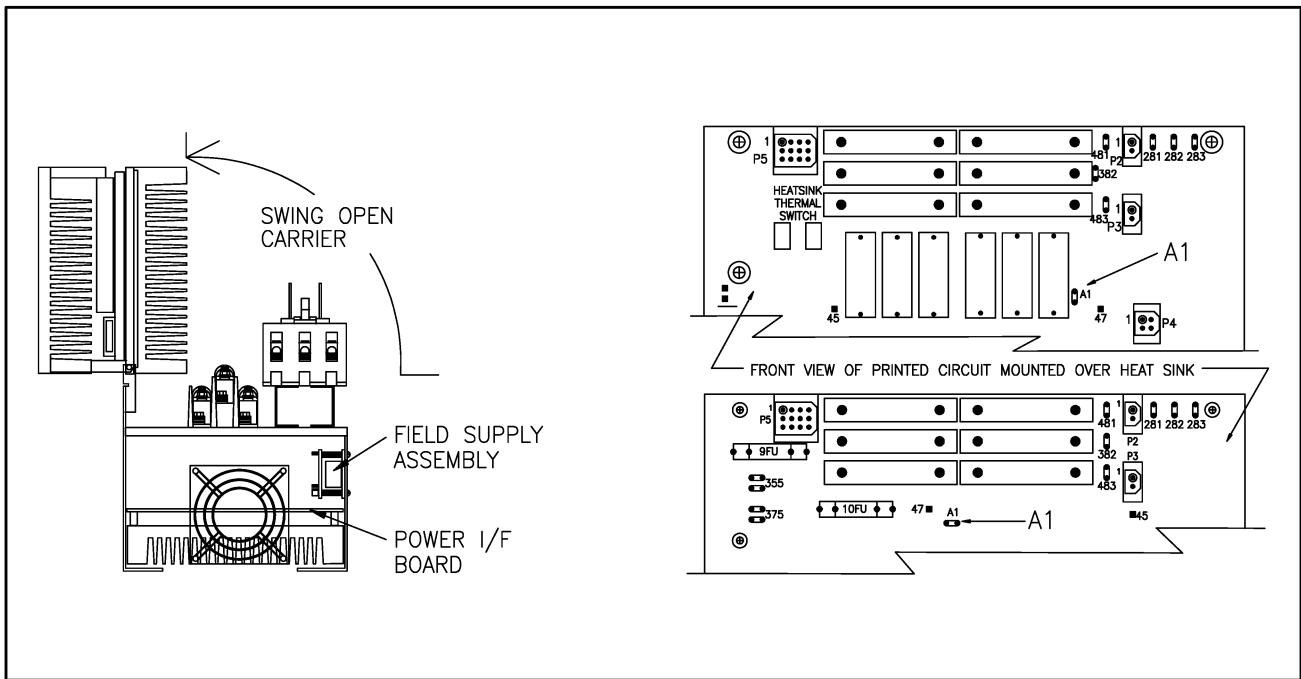

Figure 4 - Power Interface Board and Terminal A1 Locations
Step 10. Locate and remove the jumper wire from the 11FU terminal marked A1 and the terminal marked A1 on the Power Interface board. See Figure 4 for the location of the Power Interface board and terminal A1 on the Power Interface board.